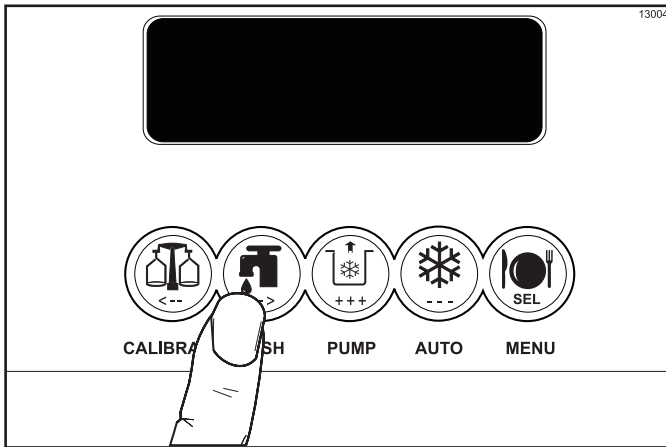

Figure 6-37
- Press the WASH key. This will cause the cleaning/sanitizing solution in the freezing cylinder to contact all areas of the freezing cylinder. Allow the solution to agitate for 5 minutes. (See Figure 6-37.)